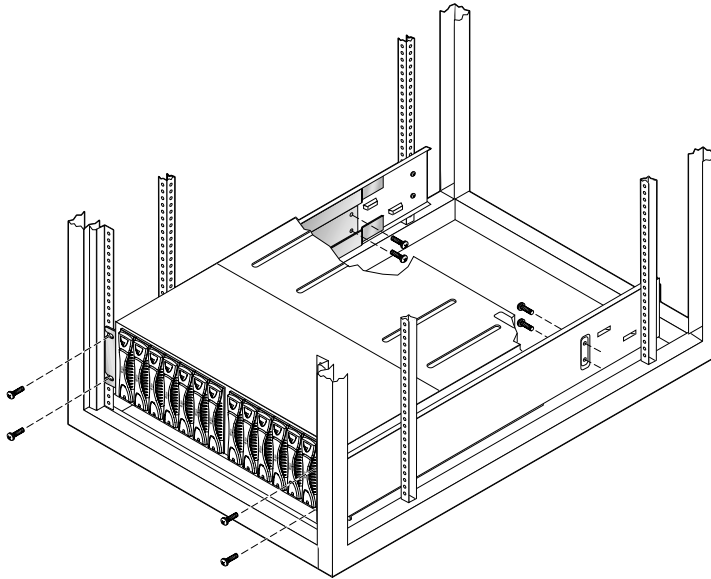

FIGURE 6-17 Removing the Mounting Screws
- a. Remove the four Phillips screws at the back of the chassis and the four at the front that secure the array to the side rails in the cabinet (FIGURE 6-17).